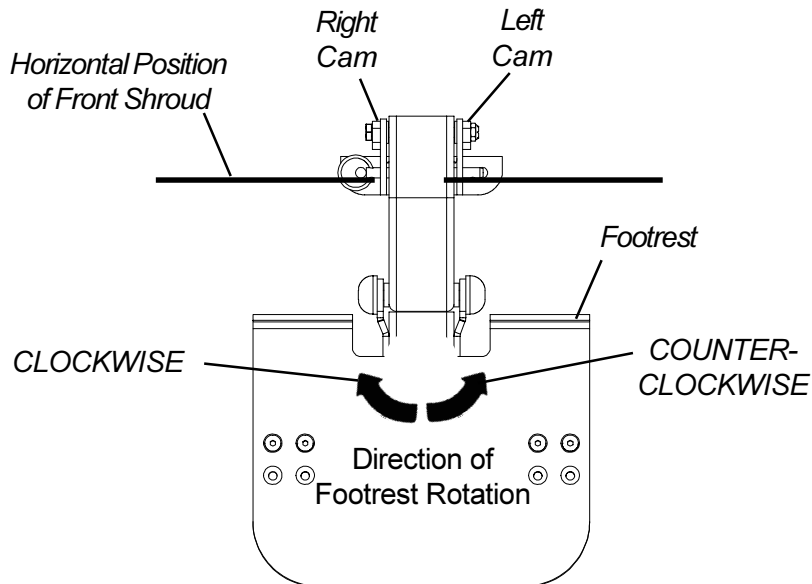

FIGURE 16 - FOOTREST ANGLE ADJUSTMENTS
**Footrest Angle Adjustment Relative to the Vertical Position of the Front Shroud (FIGURE 16)**
**Footrest Angle Adjustment Relative to the Horizontal Position of the Front Shroud (FIGURE 16)**